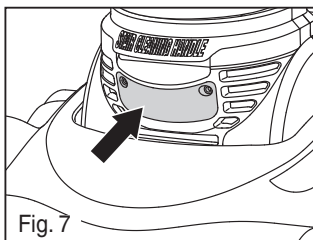

Fig. 7
- 1) Remove 2 screws from lens cover (Fig. 7).